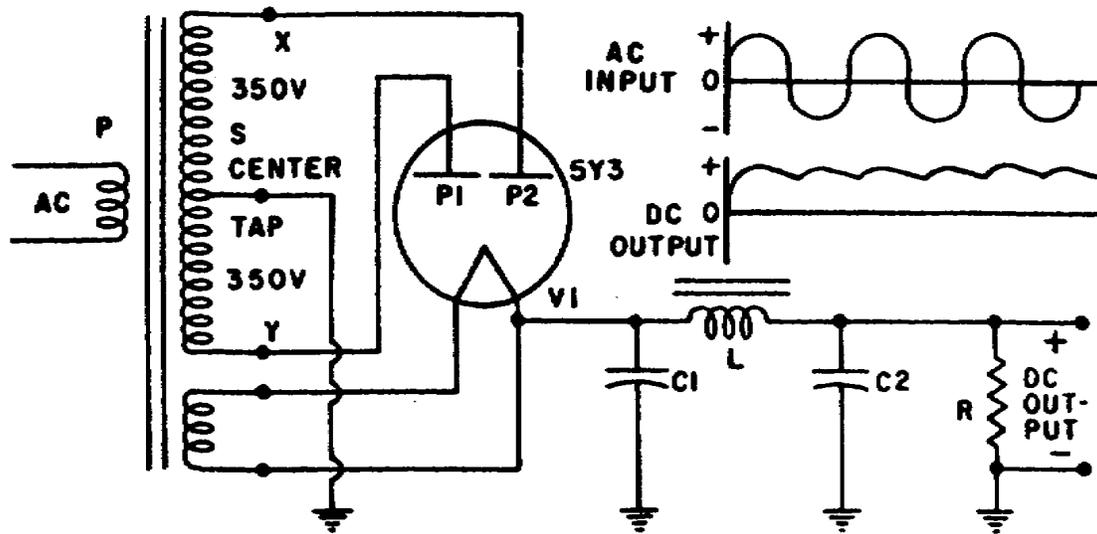

Figure 92. Full-wave rectifier.
16. In a full-wave rectifier circuit, two diodes may be used. However, in many applications, the two diodes are included in one envelope and the tube is referred to as a duo-diode. A typical example of a full-wave rectifier circuit is shown in figure 92. In this circuit a duo-diode is used, and the transformer's secondary winding has a center tap. Notice that the center tap current is turned to ground and then through R and inductor L to the cathode (filament) of V1. The voltage appearing across X and Y is 700 volts a.c. The center tap is at zero potential with 350 volts on each side.
18. During the other half-cycle, P1 will be negative and nonconducting while P2 will be positive and conducting. Therefore, since the two plates take turns in their operation, one plate is always conducting. Current flows through the load resistor in the same direction during both halves of the cycle, which is called full-wave rectification. The circuit shown in figure 92 is the basis for all a.c. operated power supplies that furnish d.c. voltages for electronic equipment. Notice that the heater voltage for the duo-diode is taken from a special secondary winding on the transformer.